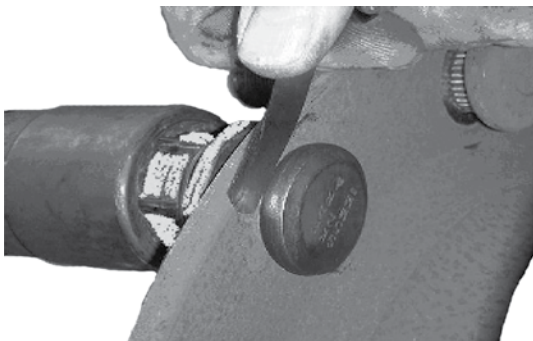

Figure 7: Checking stud installation
- Check** stud installation with a 0.0015 inch feeler gauge (Figure 7) to make sure the stud is seated.
7. **Check** stud installation with a 0.0015 inch feeler gauge (Figure 7 on page 4) to ensure the stud is fully seated.